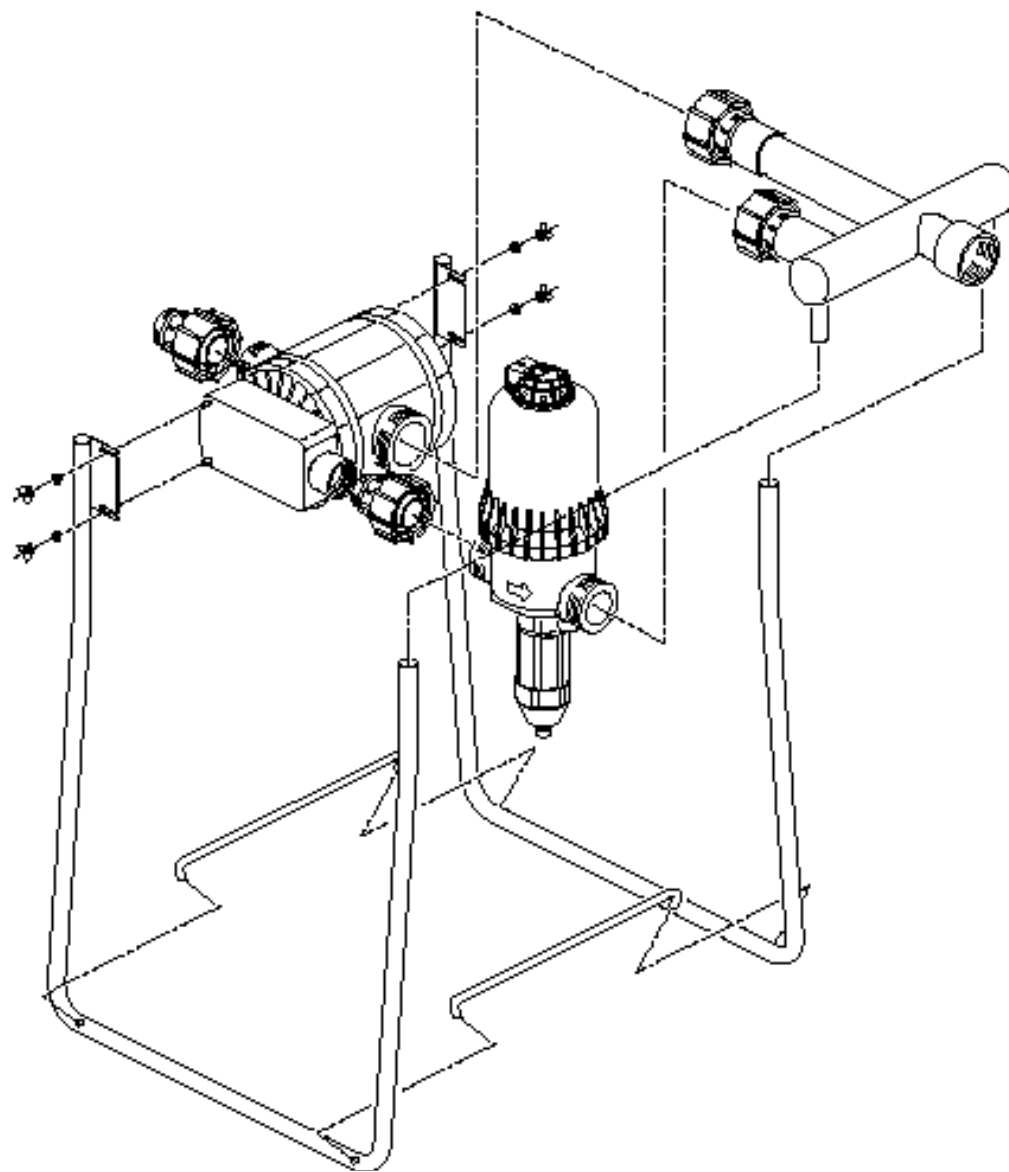

**Fig. 1**
- Remove the red protective caps (types **A** & **B**) from the Proportional Injector and the turbo block inlets and outlets. Retrieve the spacing rings (**D**) and O-rings (**C**) and fit them on to the inlet and outlet adaptors as shown in **Fig. 1** (fit plastic spacing ring first, rubber O-ring second).
- Remove the protective caps (**Fig. 1 - E**) from the Proportional Injector concentrate intake.